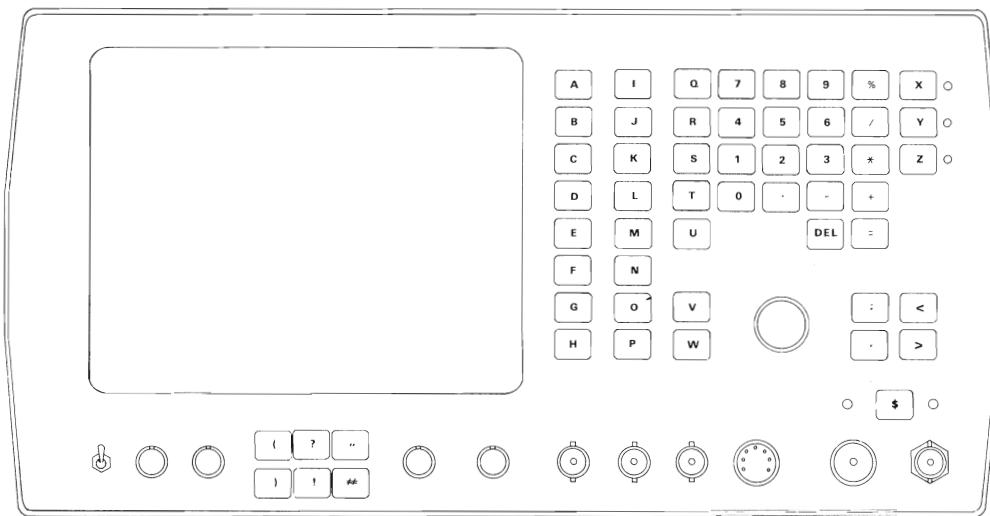

Fig. 3-15
- SK When next addressed to talk, will send an ASCII character corresponding to the last key pressed. The ASCII characters corresponding to the keys are shown in Fig. 3-15.
When enabled, the 2955 can request service to indicate to the controller that data is ready or to warn of an error condition. In response to a serial poll after asserting SRQ, the 2955 provides a status byte whose bits are allocated as shown in Fig. 3-15.